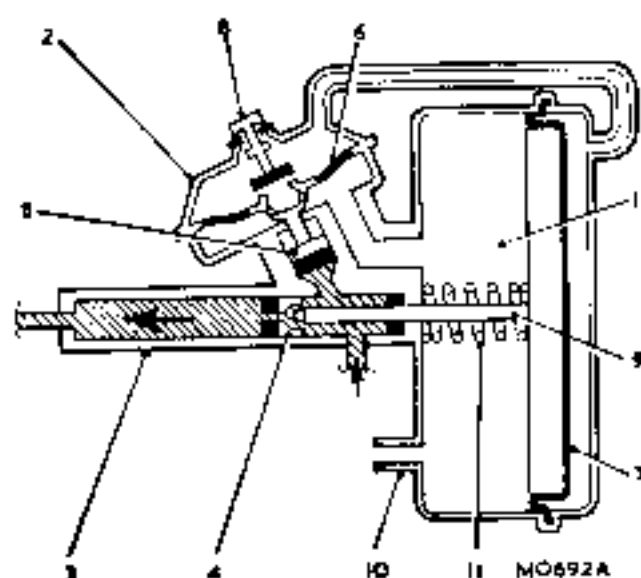

Fig. M.9
Refer to Fig. M.9. The vacuum-operated servo unit consists of three main components, namely the vacuum cylinder (1), the air valve assembly (2), and the slave cylinder (3) which is connected in the hydraulic circuit between the main master cylinder and the wheel cylinders. Under light braking fluid is allowed to pass directly to the wheel cylinders via the hollow centre of the slave piston (4) and no braking assistance is obtained; fluid pressure acting on the air valve piston (5) closes the diaphragm (6), thus separating the chamber behind the main servo diaphragm (7) from the one in front. Under heavier braking, further movement of the air valve piston opens the air valve and allows air to enter the chamber behind the main diaphragm, destroying the vacuum. The central rod (9) is thus pushed to the left, sealing the hollow centre of the slave piston and pushing it down its bore, so increasing the fluid pressure at the wheel cylinders. When the brake pedal is released, the pressure beneath the air valve piston is destroyed, the diaphragm (6) reopens and the air valve closes. Via the non-return valve (10), a suspended vacuum is recreated around the main diaphragm. Under the action of the spring (11), the diaphragm and push-rod, and thus the slave piston, are returned to their original positions, and the pressure in the wheel cylinders is lost.